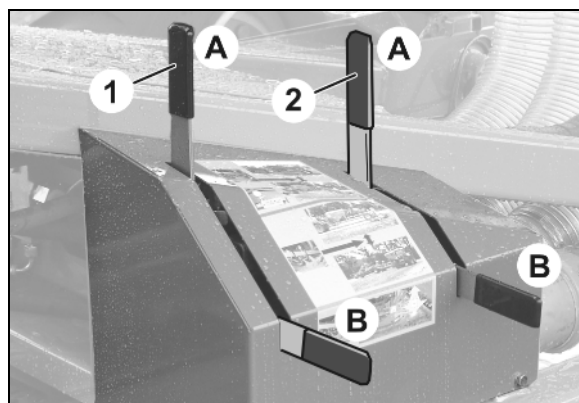

Fig. 107
1. Adjustment of the hydraulic hand lever (Fig. 107)